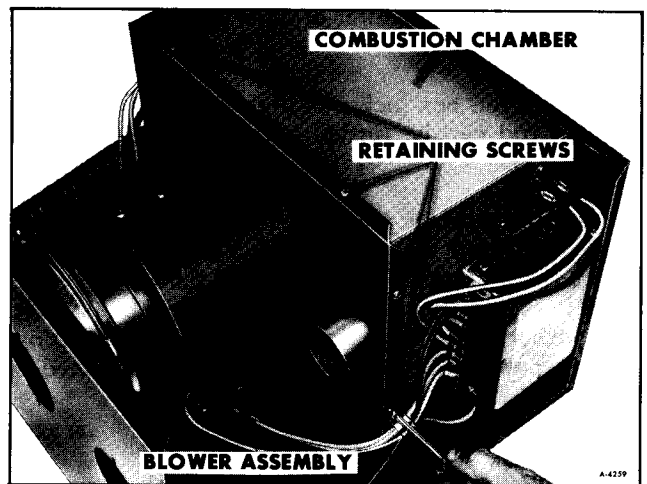

Figure 29—Removing Blower Motor Retaining Screws
9. Remove six retaining screws holding blower assembly to combustion chamber (See figure 29).
1. Position blower assembly against combustion chamber. Install six retaining screws (See figure 29).